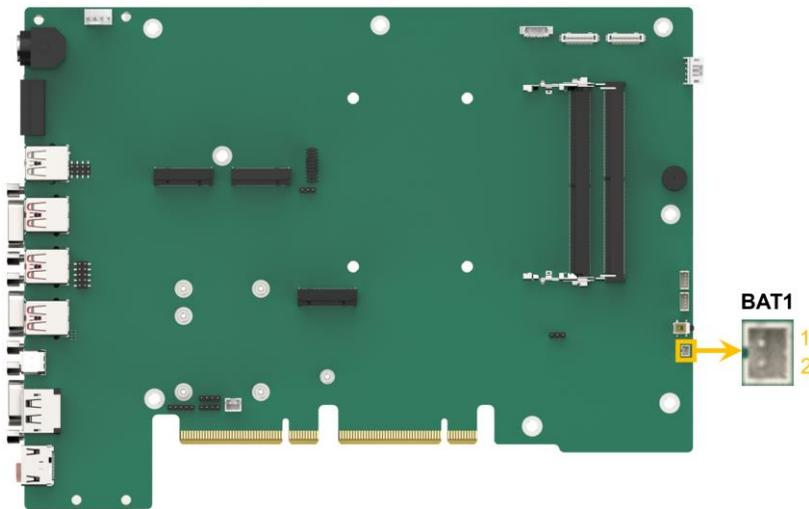

Figure 4-15: RTC Battery Connector Location
- CN Location:** See **Figure 4-15**